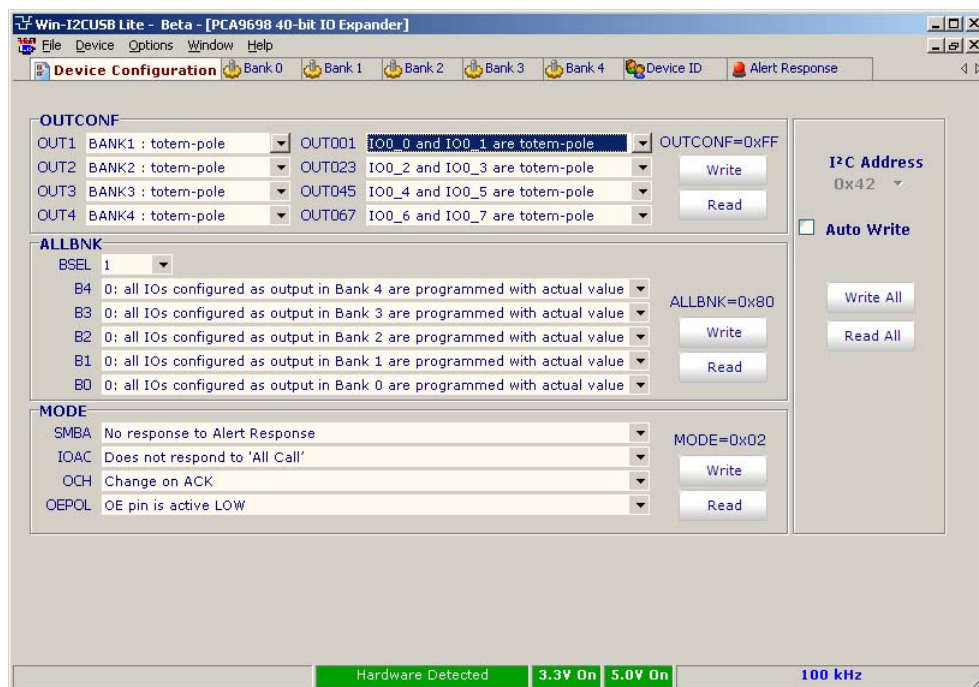

Fig 4. PCA9698 device configuration screen
5. The device configuration screen will be displayed as in Figure 4.